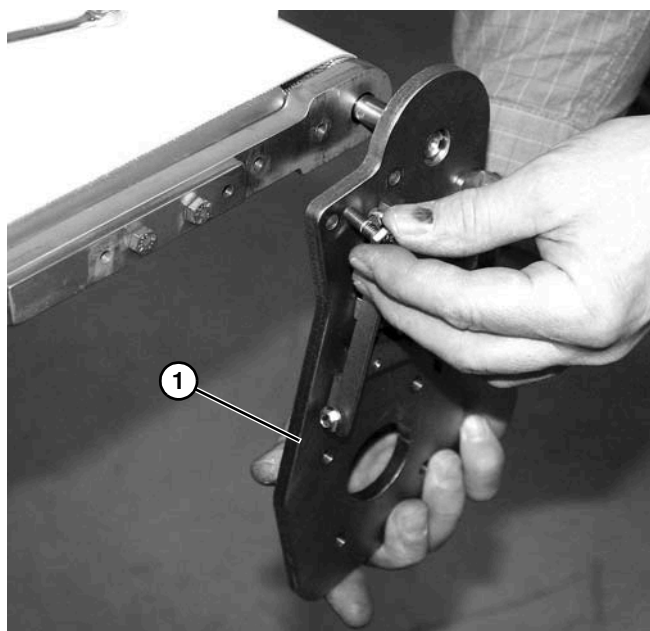
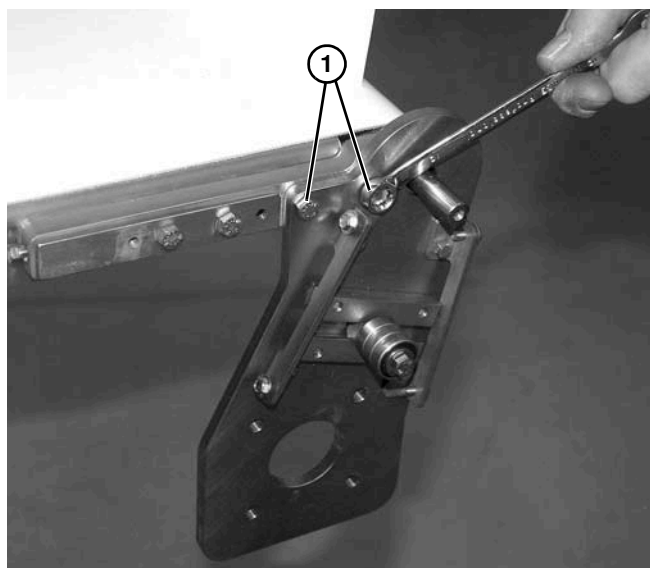

Figure 24
Figure 25
1. Install mounting plate (**Figure 24, item 1**) onto drive end of conveyor with two screws (**Figure 25, item 1**).